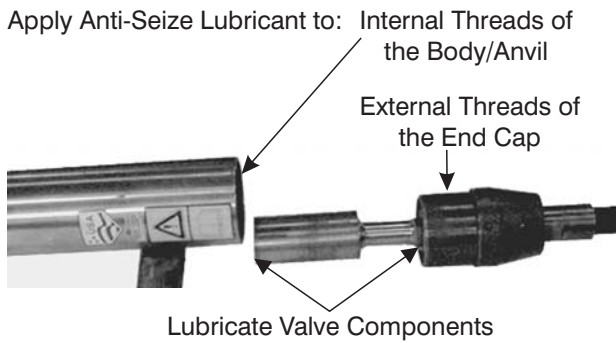
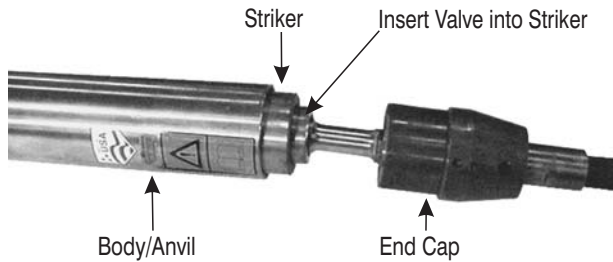

Figure 9-24. Prepare Tail Assembly and Body Anvil for Assembly.
Figure 9-25. Insert Valve into Striker.
4. Apply anti-seize thread lubricant sparingly to the threads of the End Cap (9) and the Body/Anvil (1). See Figure 9-24.
5. With the exception of the End Cap (9) and Whip Hose (13), coat the tail assembly components with hydraulic fluid.
6. Insert the Valve (6) into the Striker (2) and thread the End Cap (9) into the Body/Anvil (1), as shown in Figure 9-25.